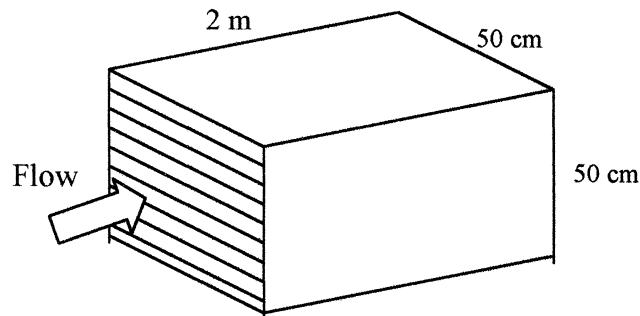

Fig. P6.97
6.97 A heat exchanger consists of multiple parallel-plate passages, as shown in Fig. P6.97. The available pressure drop is 2 kPa, and the fluid is water at 20°C. If the desired total flow rate is 900 m³/h, estimate the appropriate number of passages. The plate walls are hydraulically smooth.